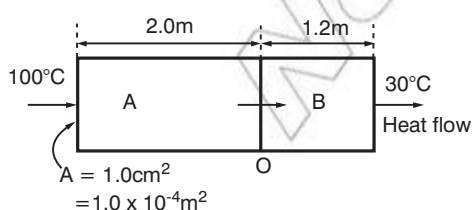

Figure 8.43
5. Work out the rate of flow of heat through the bar shown in Figure 8.43. Let the thermal conductivity of B be 450 W/m/K while that for C is 150 W/m/K.